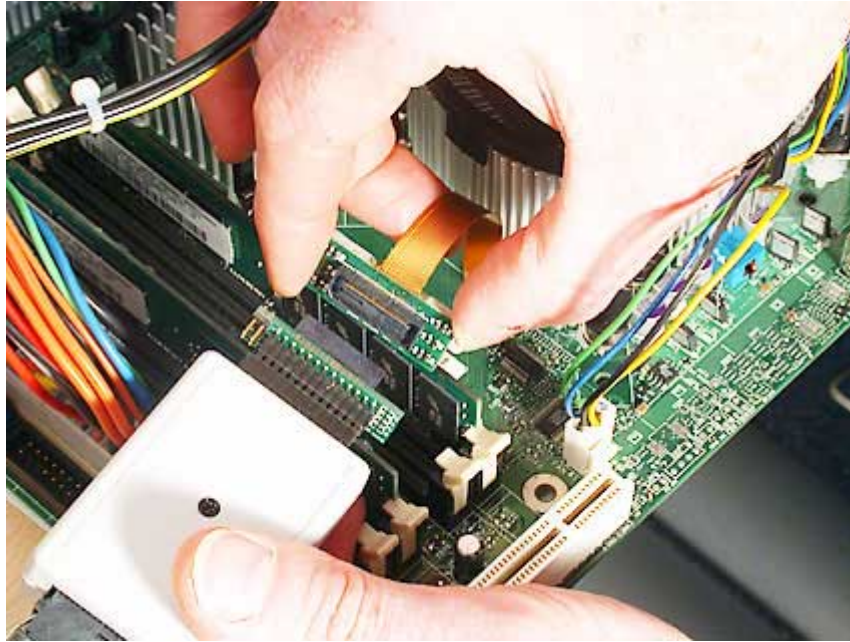

Figure 2.14 Attaching the Debug Port Adapter (DPA). In this photograph, the XDP Adapter is shown attached to the end of the DPA
15. Attach the Debug Port Adapter (DPA) to the XDP Adapter (Figure 2.14).